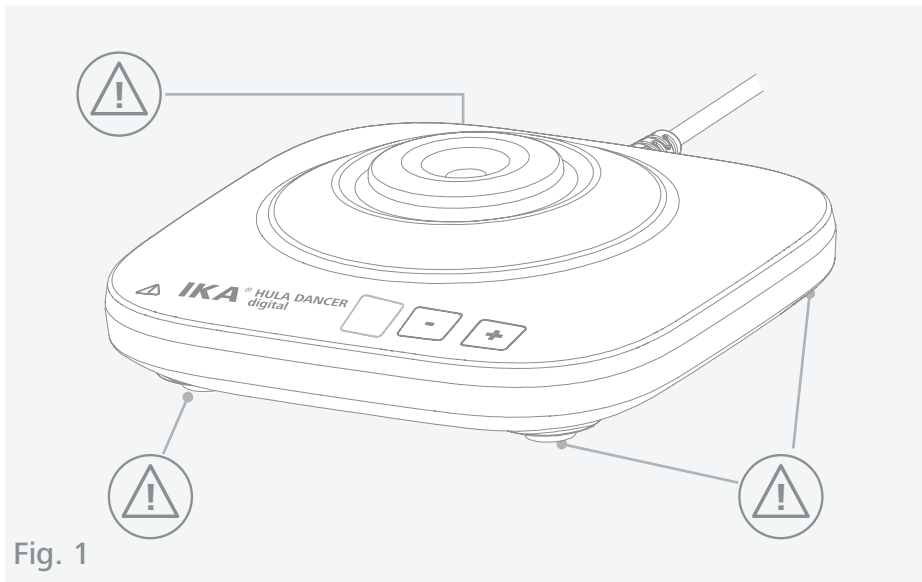

Fig. 1
- > Please pay attention to the dangerous parts of the equipment in Fig. 1.